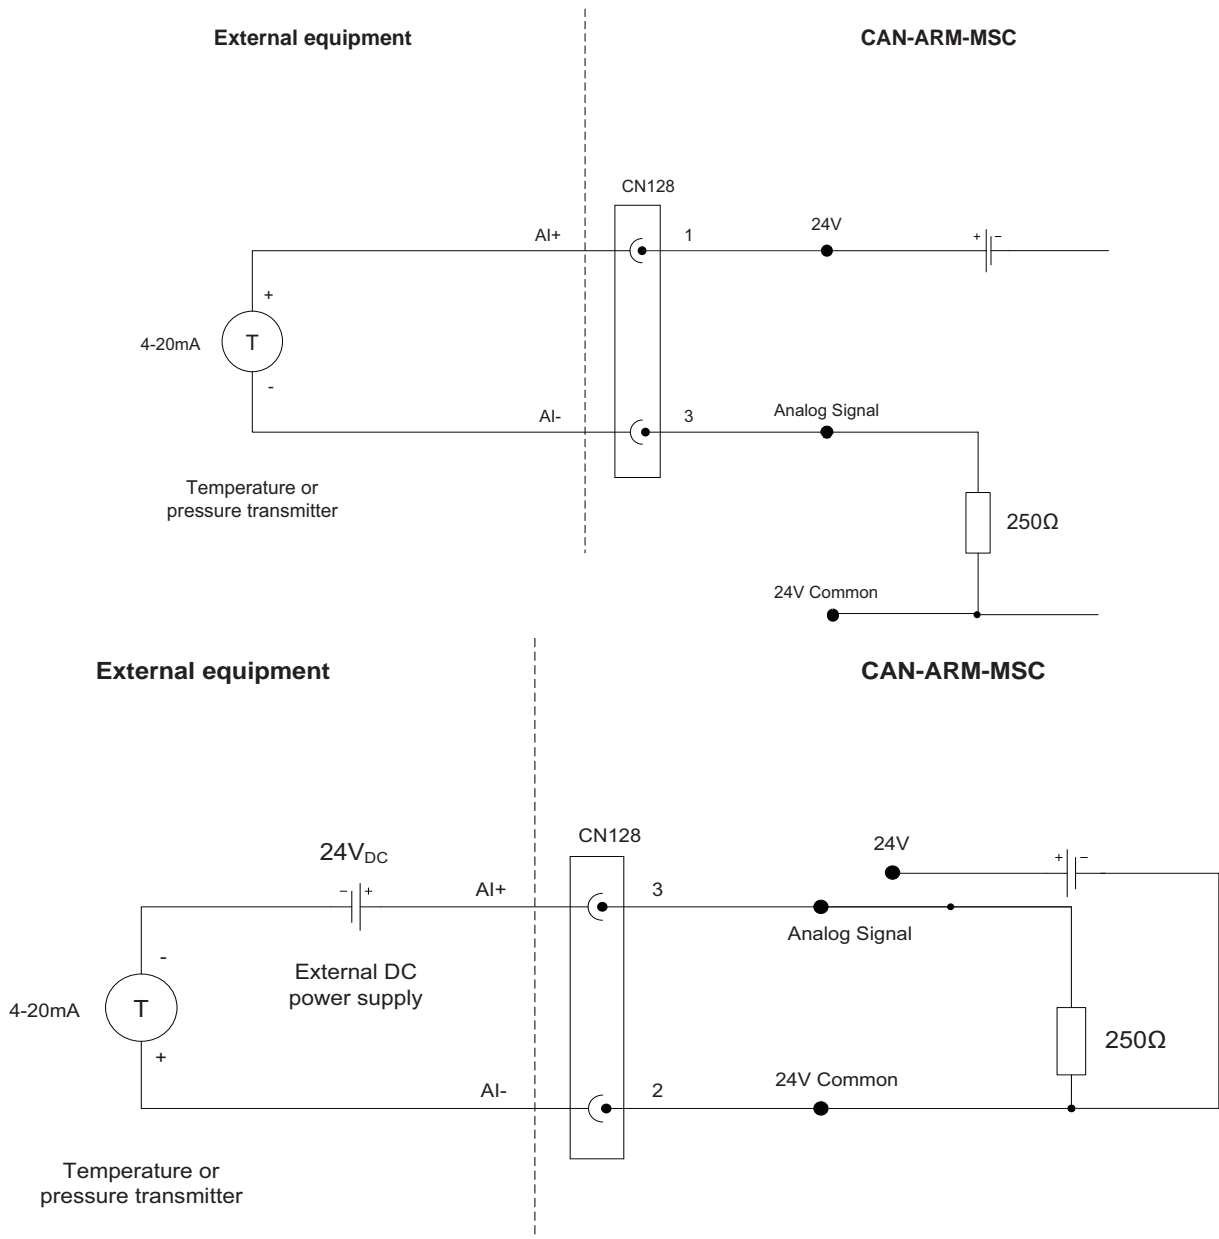

FIGURE 3-27
3.8.5 Analog Input (AI)**3.8.5.1 Functional Description**
The Analog Input (AI) supports 2-wire 4-20 mA, and can be configured by a switch to operate in active mode or passive mode. See FIGURE 3-27.